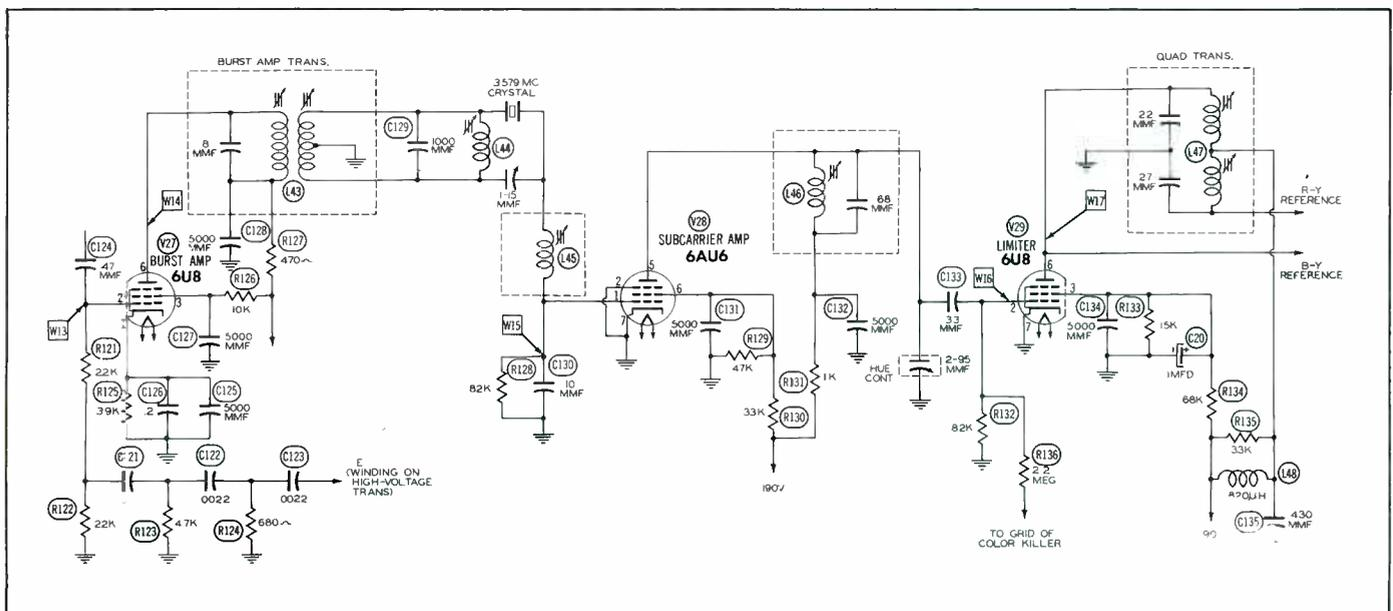
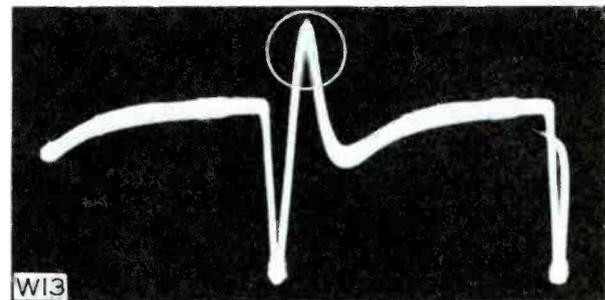

Fig. 6-24. Color-Sync Circuit in General Electric Model 15CL100.
Fig. 6-25. Signal at the Grid of the Burst Amplifier in Fig. 6-24.
The General Electric Model 15CL100 employs a color-sync circuit which differs considerably from the one just discussed. This can be seen in Fig. 6-24. A signal from the output of the chrominance amplifier is applied to the grid of the burst amplifier through a 47-mmf capacitor. The burst-amplifier tube conducts during retrace time and is held at cutoff during scan time because of the charge maintained by C126 in the cathode circuit. A winding on the high-voltage transformer supplies to the grid a positive pulse which is in time coincidence with the color-burst component. This is shown by waveform W13 in Fig. 6-25. This positive pulse causes the tube to conduct, and the burst signal is amplified.
7. Why is a limiter stage used in the color-sync circuit shown in Fig. 6-24?
8. How is the correct frequency and phase of the 3.58-mc reference signal assured in the circuit shown in Fig. 6-24?